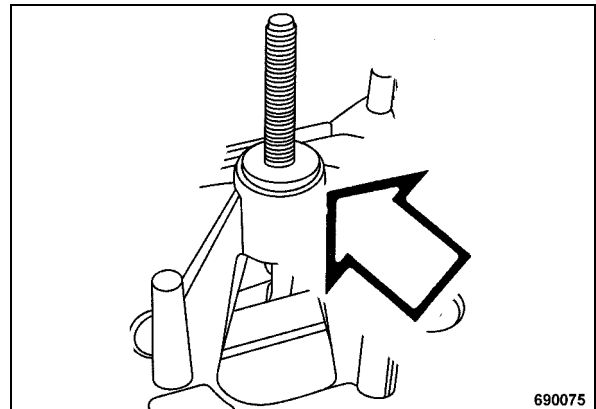

Fig. 70
- Check the rubber seal, replace the rubber seal if damaged (Fig. 70).